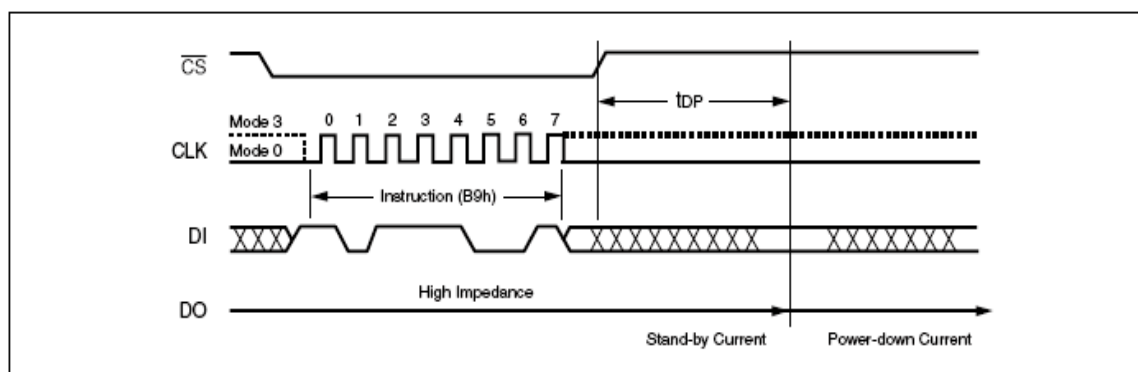

Figure 15. Deep Power-down Instruction Sequence Diagram
The instruction sequence is shown in Figure 15..Chip Select (CS#) must be driven High after the eighth bit of the instruction code has been latched in, otherwise the Deep Power-down (DP) instruction is not executed. As soon as Chip Select (CS#) is driven High, it requires a delay of  $t_{DP}$  before the supply current is reduced to ICC2 and the Deep Power-down mode is entered.